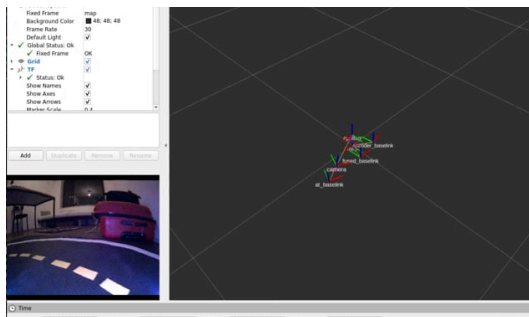

Figure 4.8. Example video deliverable for the fused localization package with rectified images and slow driving
- A screen recording similar to this Figure 4.8, where you drive the robot in a loop around the Apriltag with the virtual joystick. Start the recording with the Apriltag not visible, so that you validate that your calibration service is working and when it does become visible all the frames align. You should end the trajectory where you started it (feel free to use a marker on the ground). Make sure that the video contains the camera images as well as the TF tree in Rviz.